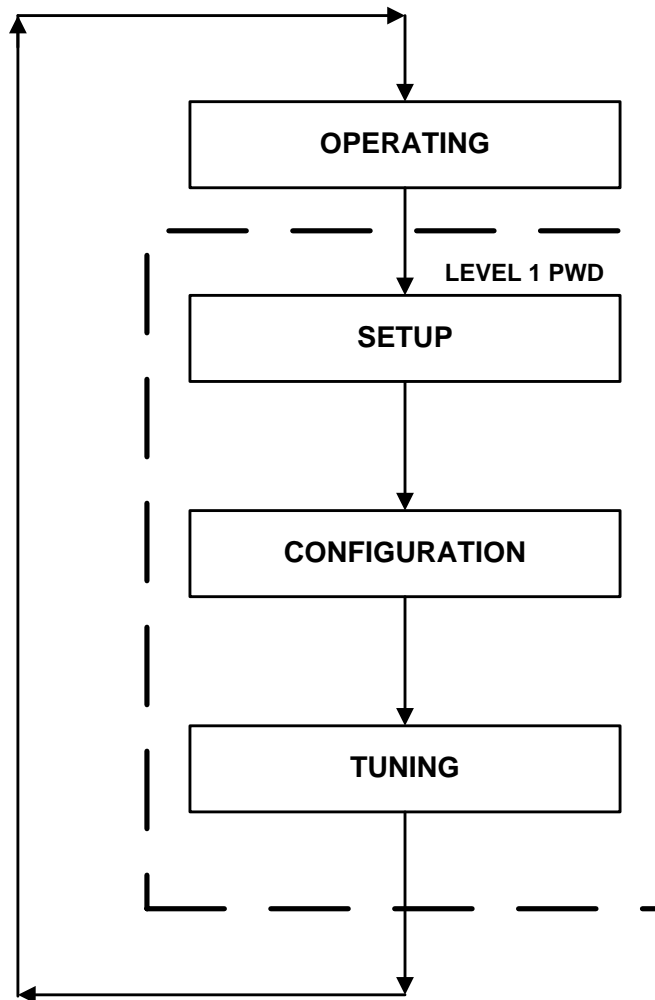

Figure 3-2. Menu Structure
The Control Panel incorporates an extensive menu structure which permits the operator to set up, and configure the unit. The menu structure consists of five major menu categories which are applicable to this manual. These categories are shown in Figure 3-2. Each of the menus shown, contain options which permit operating parameters to be viewed or changed. The menus are protected by a password levels to prevent unauthorized use.
2. Press the **MENU** key. The display will show the Setup Menu, which is the next menu category shown in Figure 3-2. This menu contains the Password option which must be entered if other menu options will be changed.